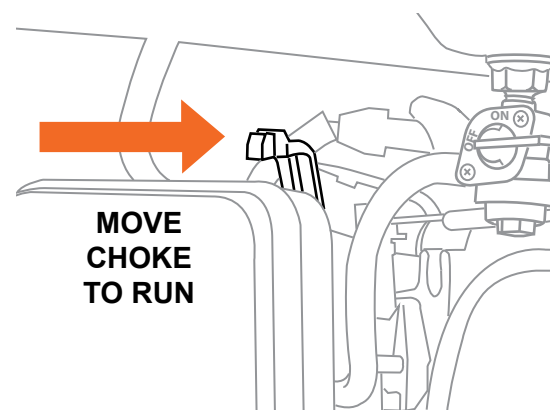

Figure 3
6. After the engine warms up and starts running normally, move the choke lever to the RUN position (see Figure 3).